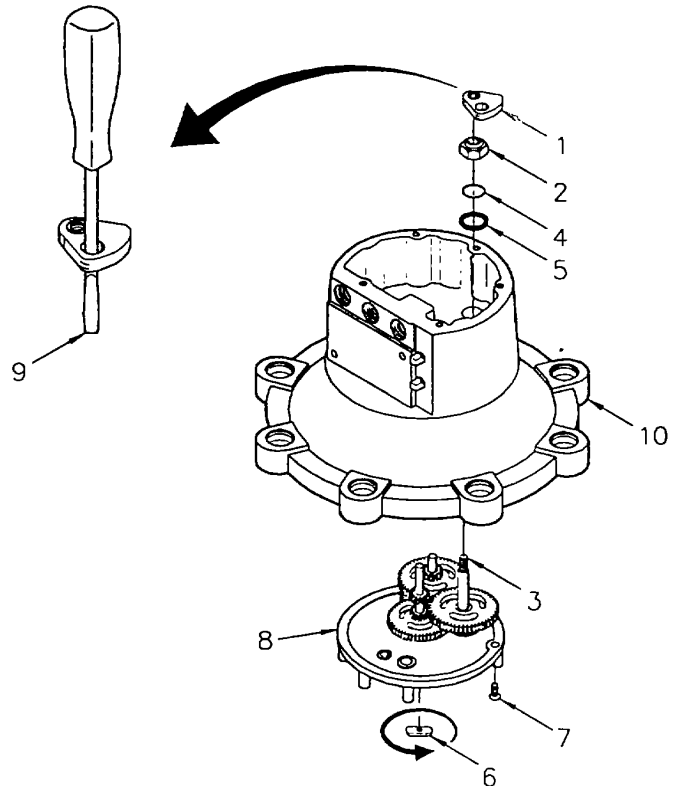

Figure 5-6. Cam and Gear Box Bearing Plate
- (b) Remove the cam by inserting screwdriver in hole in cam (1, Figure 5-6) and turning drive dog (6) counterclockwise.
- (c) Remove packing nut (2), preformed packing (4) and gasket (5).
- (d) Remove three screws (7) securing the gearbox bearing plate (8).
- (b) Install output gear E (5).
- (c) Install idler shaft (6).
- (d) Install gear D (7).
- (e) Install gear C (8).
- (f) Install gear B (9).
- (g) Install input gear A (10).
- (h) Place gearbox bearing plate (4) in position on main case assembly and install with three screws (11).
- (i) Install plug cock (12) and drive dog (13) handtight only. Do not attempt to tighten drive dog at this point.
- (j) Install gasket (5, Figure 5-6), pre- formed packing (4) and packing nut (2) into upper main case (10).
(4) Assemble upper main case assembly.
- (a) Screw cam (1, Figure 5-6) onto cam output shaft (3) side marked up facing up.